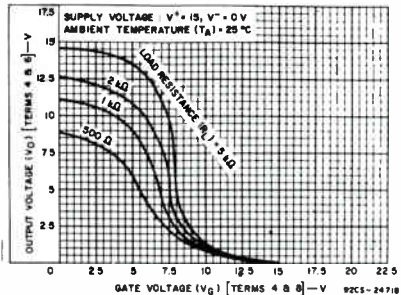

Fig. 6 - Voltage transfer characteristics of COS/MOS output stage.
**Output Stage**—The output stage consists of a drain-loaded inverting amplifier using COS/MOS transistors operating in the Class A mode. When operating into very high resistance loads, the output can be swung within millivolts of either supply rail. Because the output stage is a drain-loaded amplifier, its gain is dependent upon the load impedance. The transfer characteristics of the output stage for a load returned to the negative supply rail are shown in Fig. 6. Typical op-amp loads are readily driven by the output stage. Because large-signal excursions are non-linear, requiring feedback for good waveform reproduction, transient delays may be encountered. As a voltage follower, the amplifier can achieve 0.01 per cent accuracy levels, including the negative supply rail.